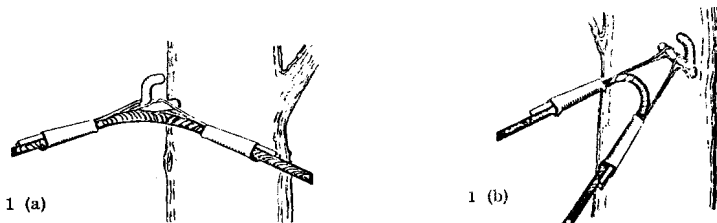

Figure 1. Tree Attachment To 6-Inch Diameter Trunk
- a. Drop wire attachments to limbs or trunks 6 inches or more in diameter shall be made with drive hooks and drop wire clamps. Do not attach more than three drop wires (6 clamps) to one drive hook. See Figure 1.